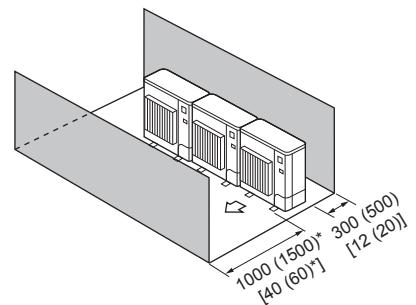

Fig. 2-15
④ Obstacles at front and rear only (Fig. 2-15)